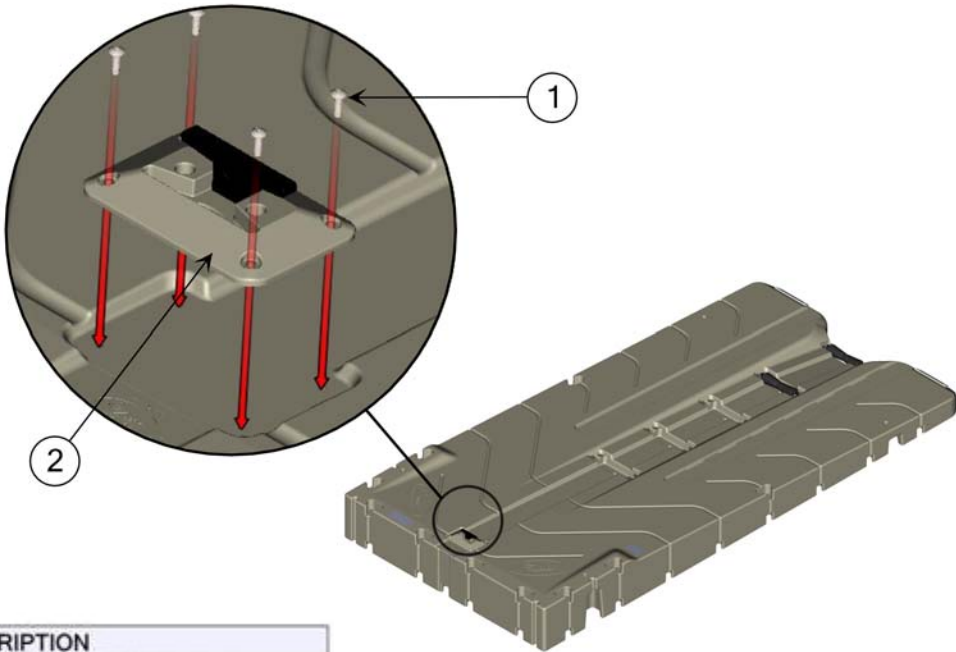

Figure 28.
- 1. Place flip-up cleat (Item 2) at designated location so that the cleat flips toward the entry of the EZ BoatPort (Figure 28).